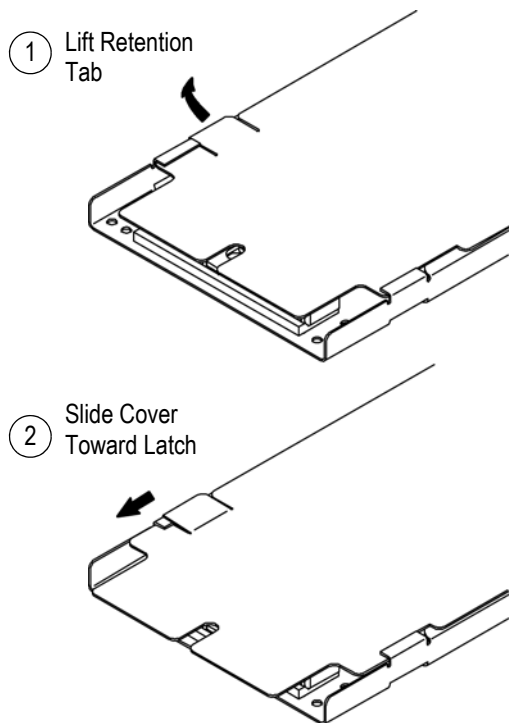

Figure 2
1. Slightly lift one of the retention tabs on the cover. While lifting the tab, slide the cover toward the latch, and remove the cover from the tray. See Figure 2.